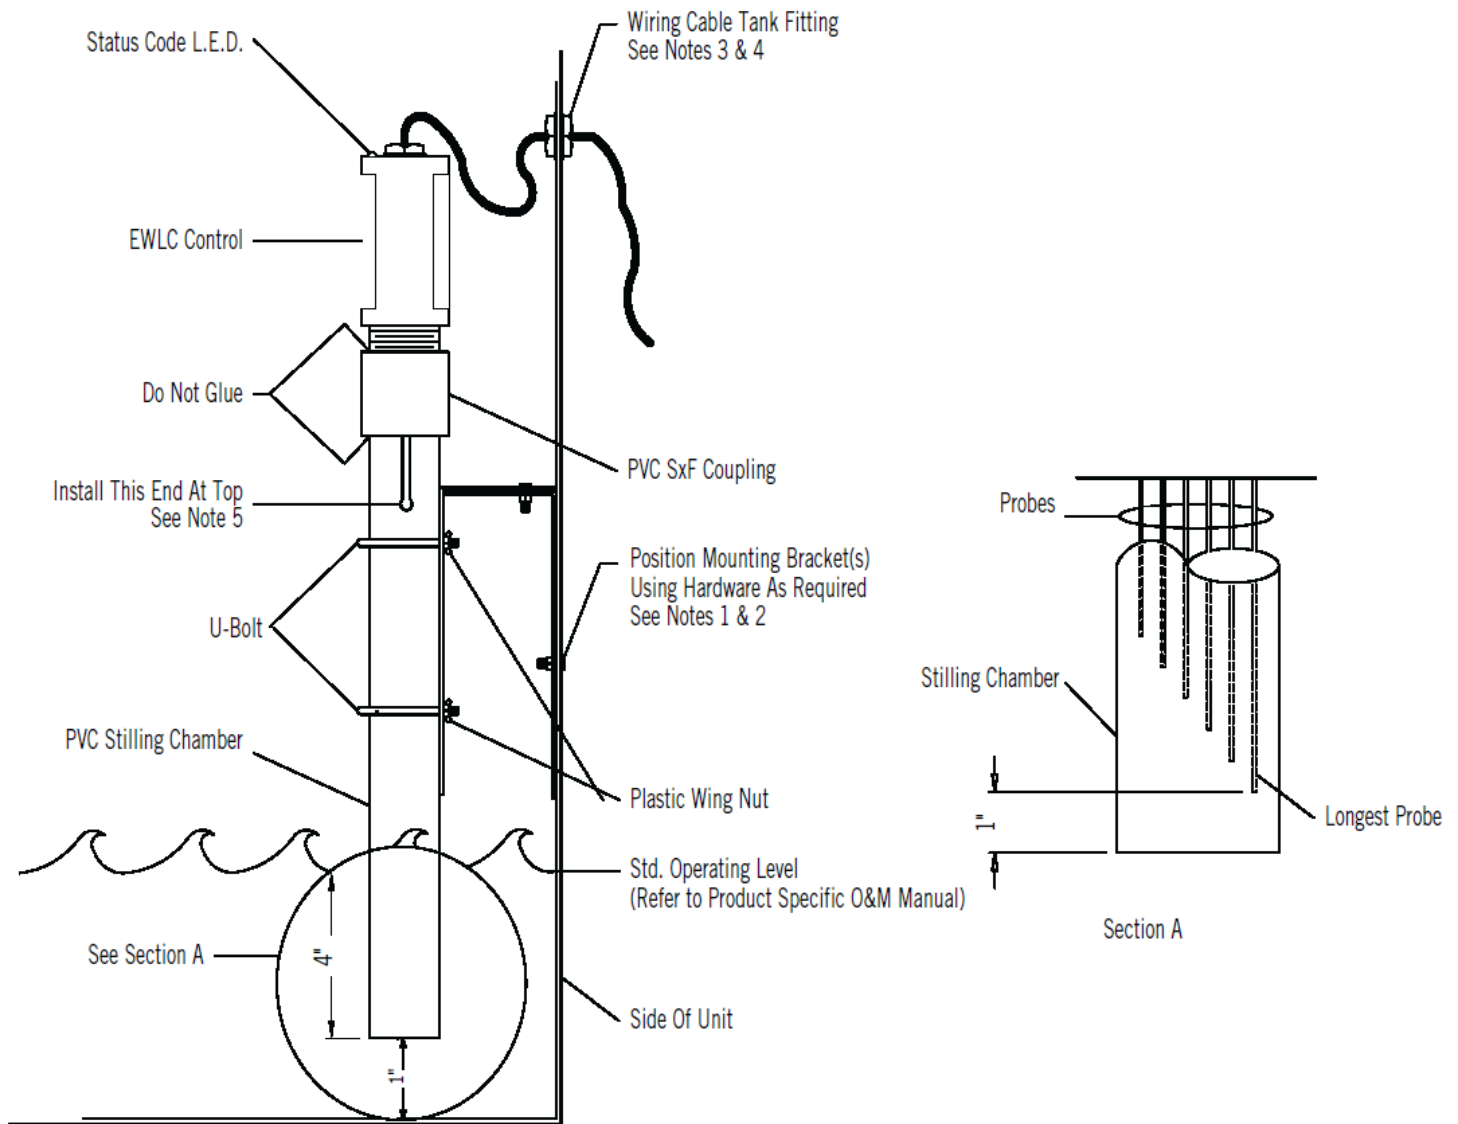

Figure 3. Typical Installation
- Attach the stilling chamber, 2" S x F PVC Coupling, and probe assembly to the mounting bracket with 2 U-bolts and plastic wing nuts (see **Figure 3**). **Do not glue** any of these parts together. They are designed to be taken apart for easy, routine maintenance.
13. A normally closed (NC), 120 VAC slow closing, solenoid valve is required on the make-up line. Refer to the **Table 2** for suggested valve sizing. These valves are available as an accessory from your local BAC Representative. The valve size is the minimum recommended size for a single cell cooling tower of the rated tonnage. Multiple cell cooling towers may require a larger size valve or multiple valves piped in parallel due to greater basin volumes.